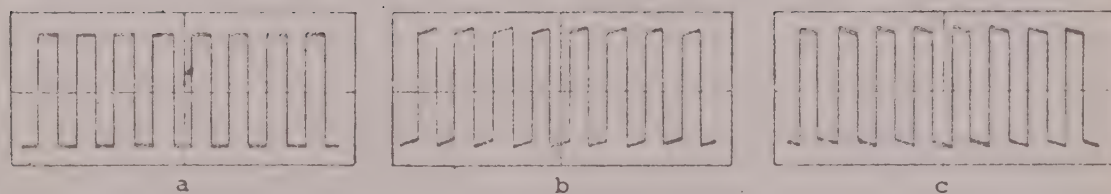

Figure 5-2. Standardizing the Input Capacitance
3. Set square wave generator to 1 Mc and adjust the Type 7012 for best square wave response. See Figure 5-2.
5. Set square wave generator for 10 Kc and adjust C2002 for best flat top. See Figure 5-2. To obtain the properly orientated waveform display for the X circuit, rotate Figure 5-2 90°.